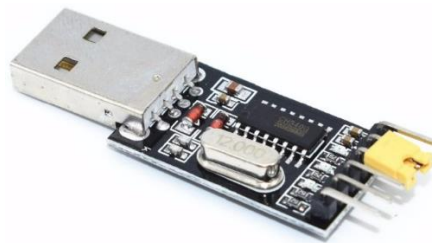

Figure 2: CH340 USB to TTL converter.
3. To use the CH340 UART module (Figure 2),